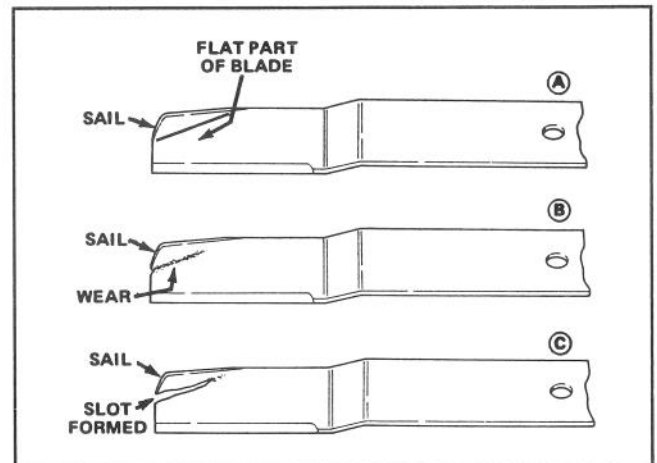

Figure 61
3. Loosen jam nuts for tension arm (Fig. 61). Adjusting tension arm changes length of the compression
2. Loosen jam nuts securing tension arm until compression spring on idler assembly is relaxed (Fig. 61).